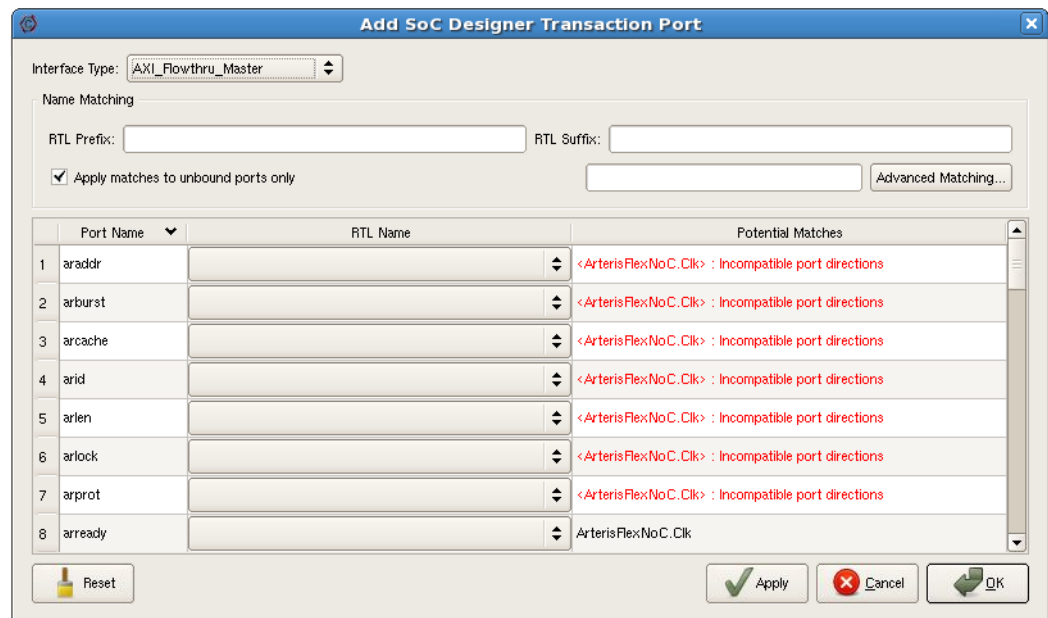

Figure 4-18 Selected Transactor in SoC Designer Transaction Port dialog
2. Click the *Interface Type* pulldown menu to display the available transactors. Select the transactor or protocol to use for your design; the example (Figure 4-18) selects an *AXI\_Flowthrough\_Master* transactor.